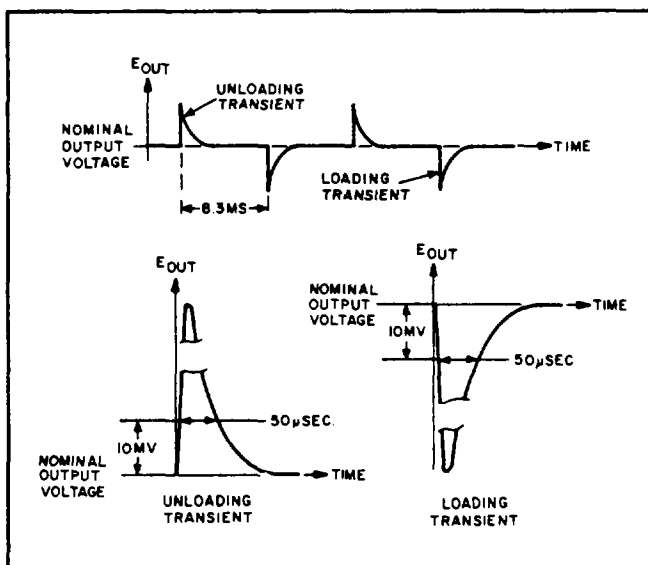

Figure 5-6. Transient Recovery Time Waveforms
- k. Starting from the major graticule division representative of time zero, count to the right 50μsec and vertically 10mV. Recovery should be within these tolerances as illustrated in Figure 5-6.